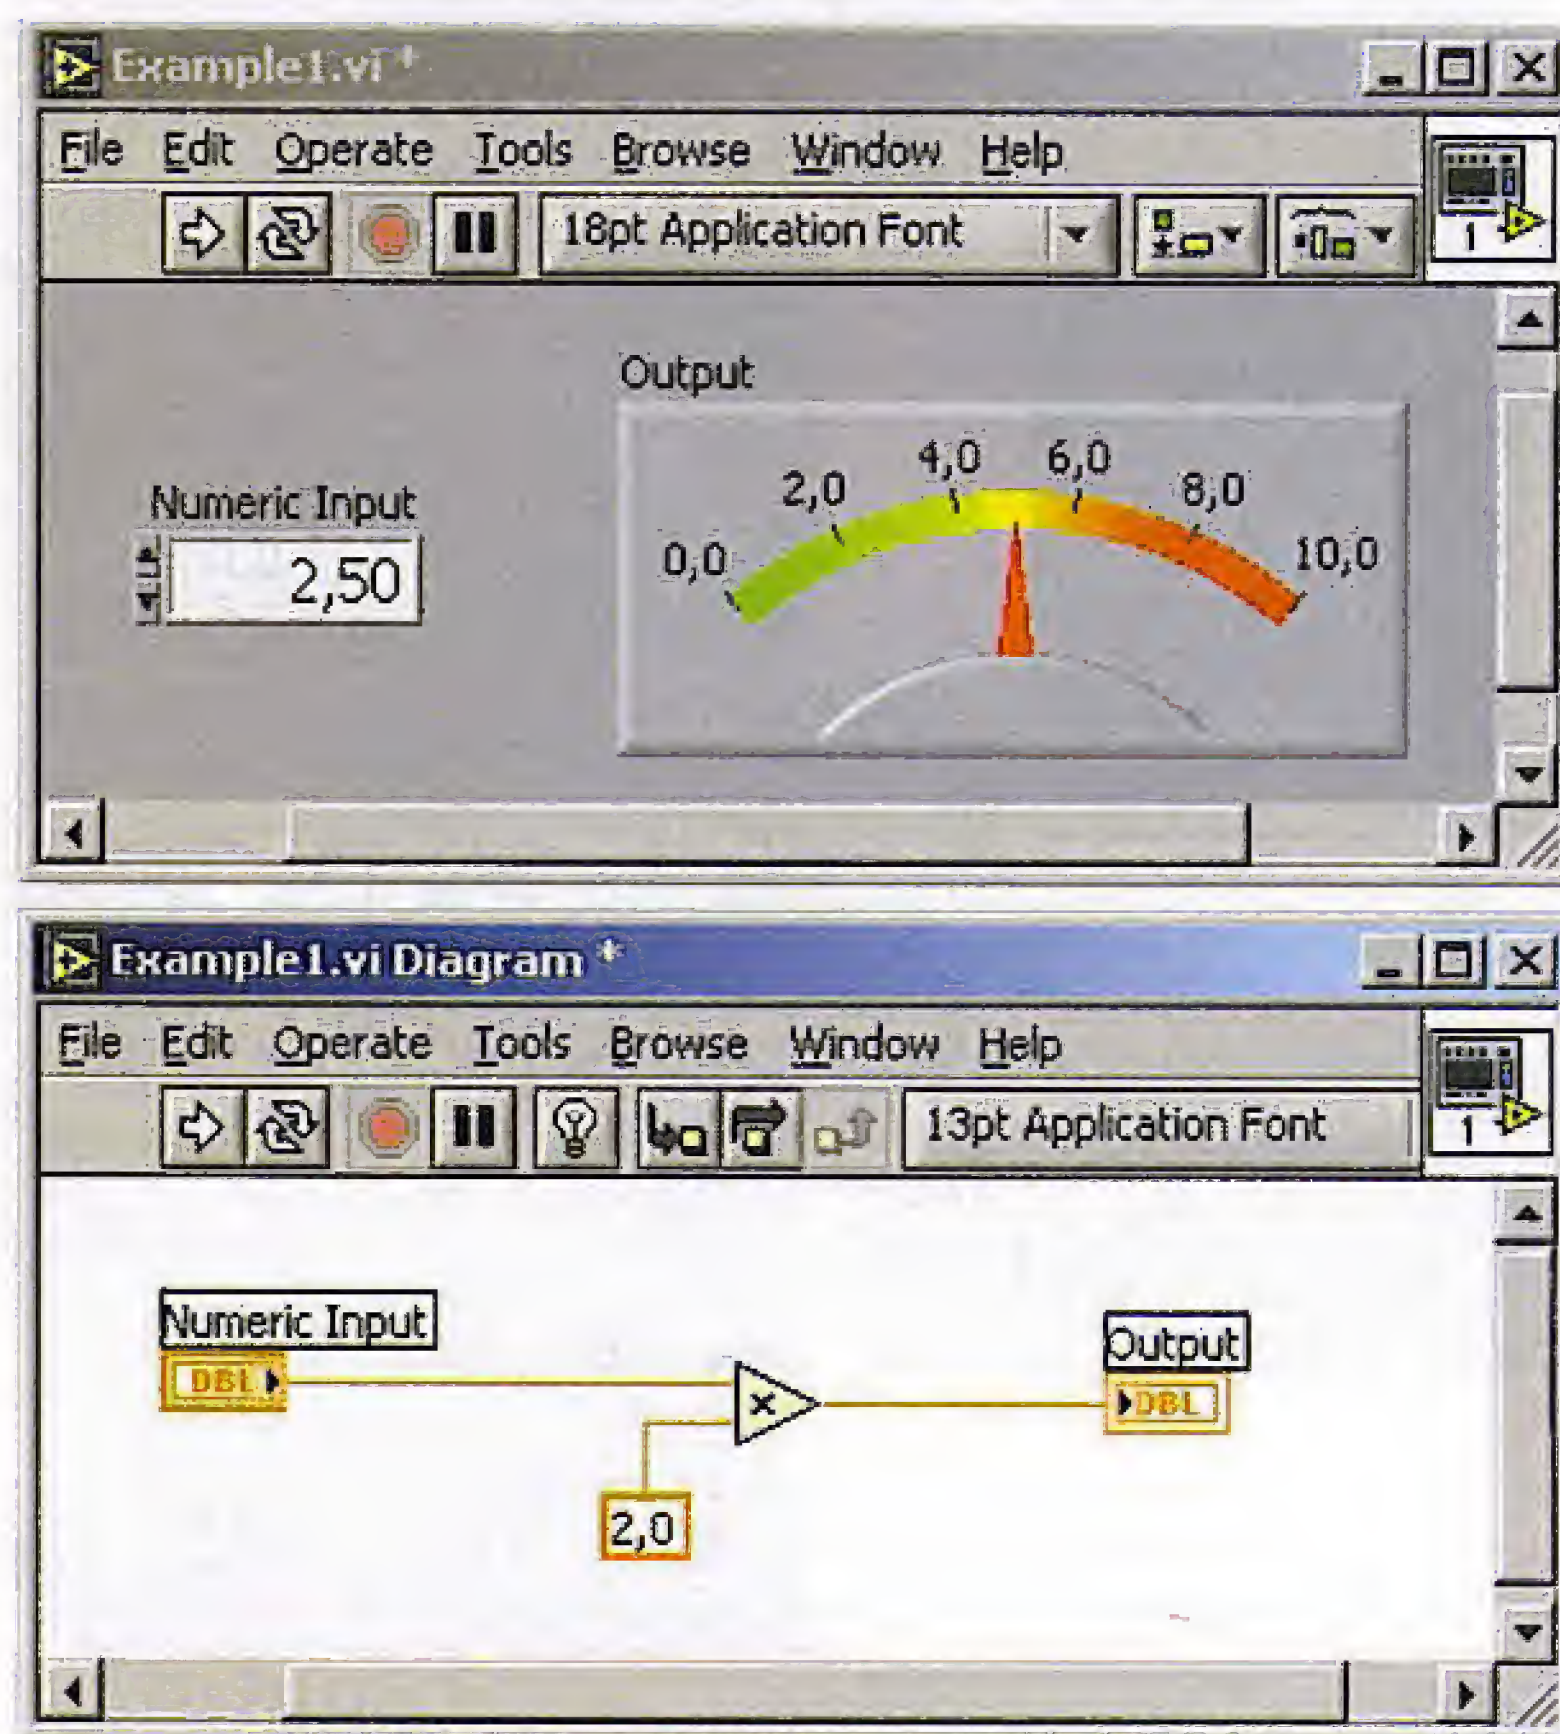

Figure 1: Front panel for the example program and (below) its 'code'.
Figure 1 shows the appearance of a very simple arrangement of data source, data processing and data display units, forming a 'wired circuit'. The program does simply this: the input value entered on the control panel (2.5) is multiplied by a factor (2), and the result (5) is displayed on the scale of a simulated analogue meter. The function is displayed in the diagram using an amplifier symbol with the factor 2 shown. Wires run from the numeric input unit and the constant to the two inputs of a multiplier unit, and from the output of the multiplier to the input of the output unit.